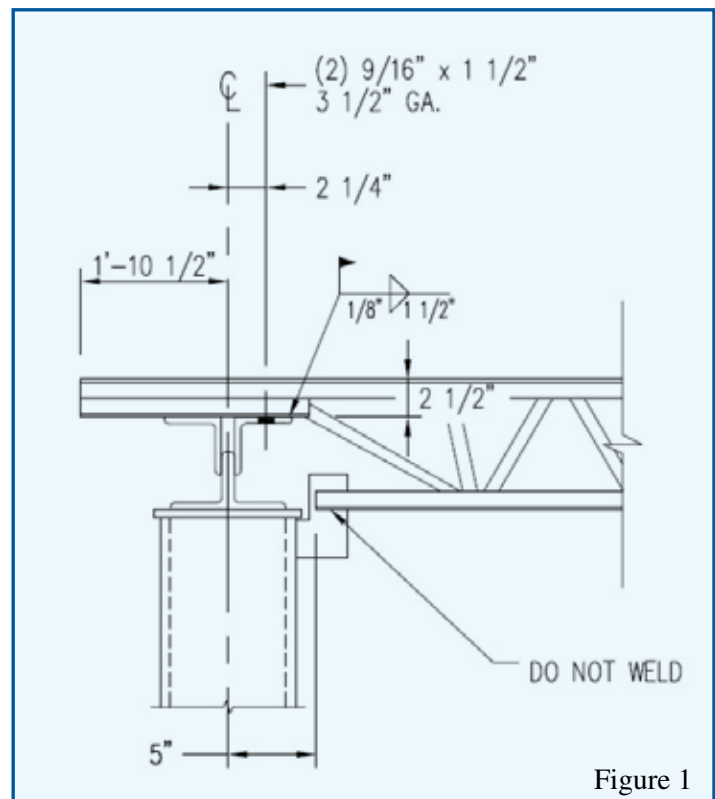

Figure 1
- x. When joists bear on girders at column centerlines, and the joists are less than 12" deep, standard joist bottom chord extensions to stabilizer plates cannot be used. For these cases, use deeper joists, specify loose (field installed) bottom chord extensions, or use a detail similar to the one shown in figure 1.